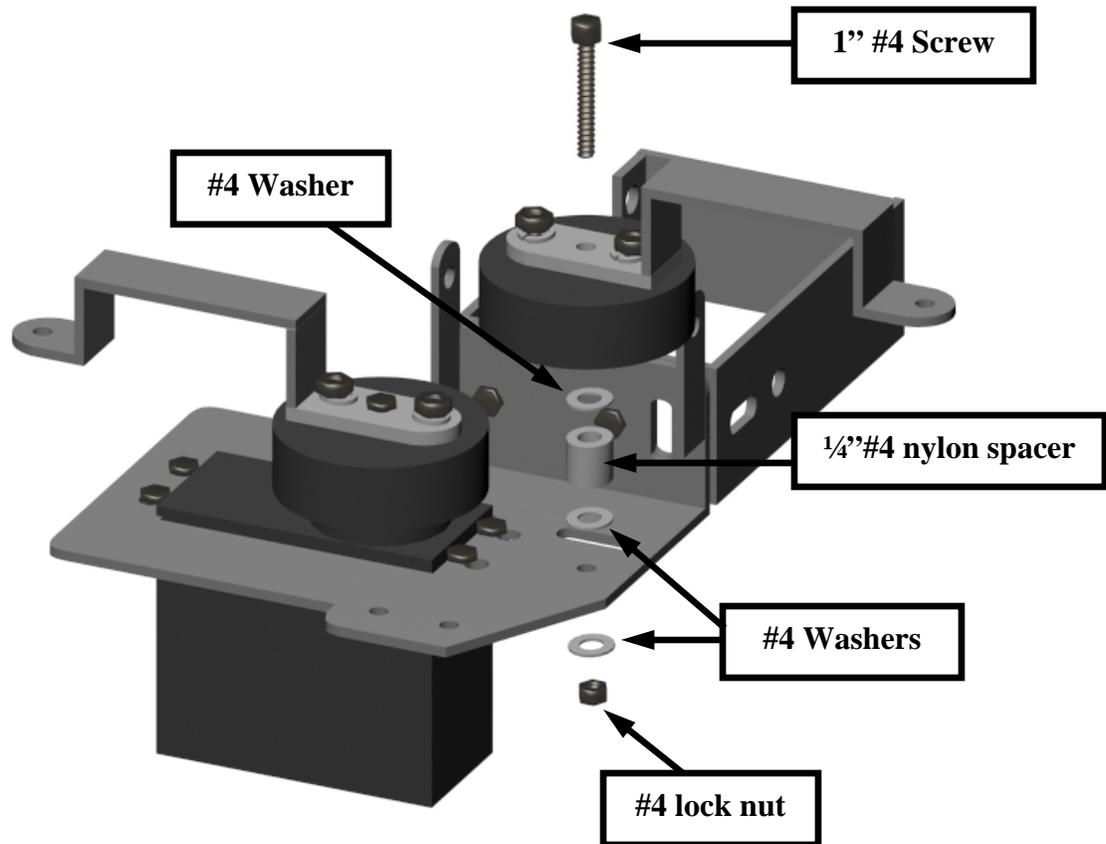

Figure 11
9. Using (1) 1" #4 screw, (2) washers, (1) lock nut and (1) 1/4" nylon spacer, install the gear brace assembly to the palm assembly as shown in figure 11. Ensure that the gear brace assembly is aligned ("in line") with the opposite servo gear brace assembly before tightening the locknut of the assembly (see figure 12). Tighten the 1" #4 screw enough so that there is no "play" in the assembly yet loose enough to the assembly can be turned by hand.